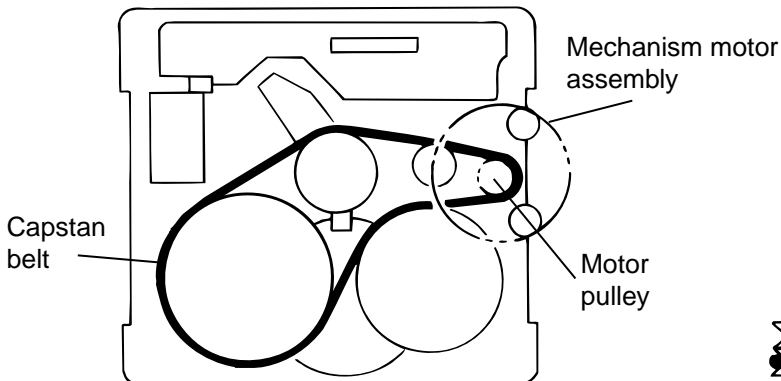

Fig. 5
**Caution 1:** Be sure to handle the capstan belt so carefully that this belt will not be stained by grease and other foreign matter. Moreover, this belt should be hanged while referring to the capstan belt hanging method in Fig. 5, 6.